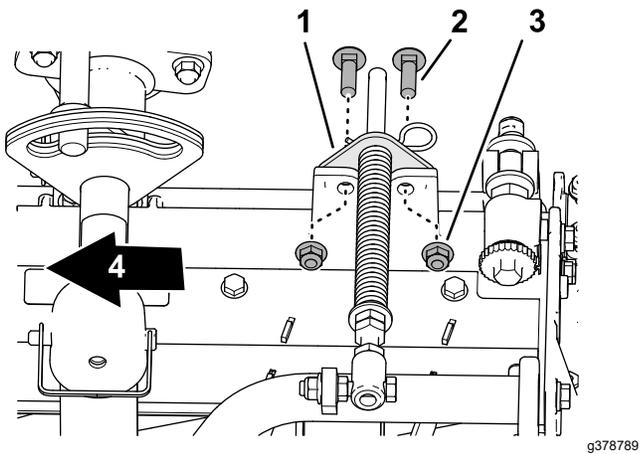

Figure 21
5. Align the holes in the turf-compensator bracket with the holes in the cutting-unit frame (Figure 21).